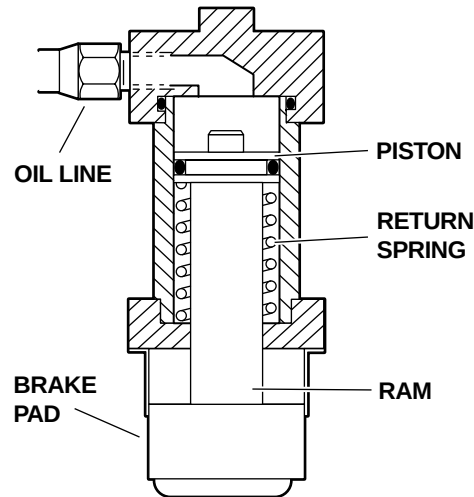

Figure 1-14. Single Action Brake Cylinder
5. Brake Cylinders - The brake cylinders are single action type similar to the elevation cylinder. The movable piston's ram is connected to a brake pad. See figure 1-14. Oil pumped into the top of the cylinder pushes the piston down raising the table base off its casters. An internal return spring on the bottom of the piston, pushes the piston up to return the oil through the mini-valve to the reservoir.